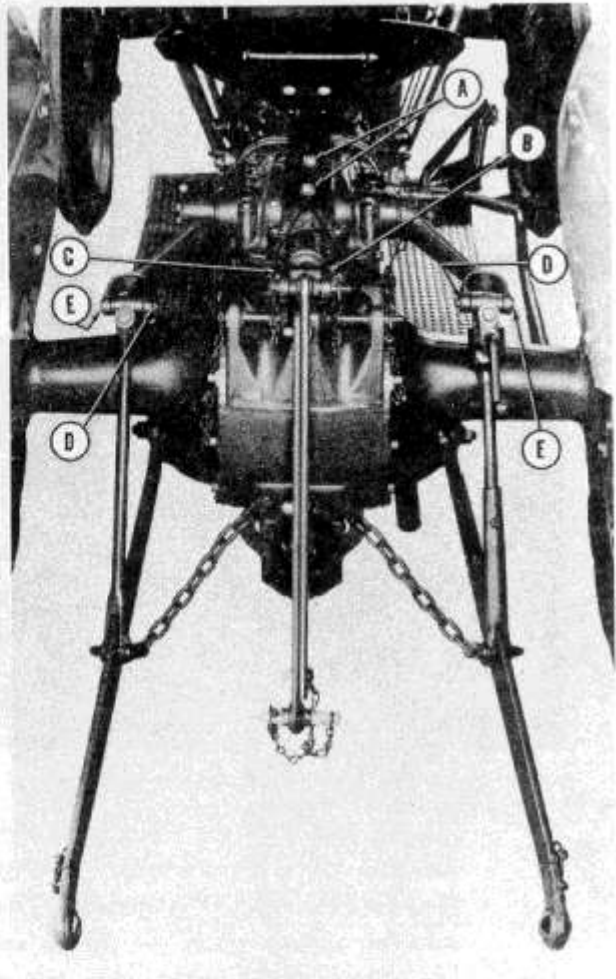

Fig. 1
NOTE: For training purposes it is advisable to remove the tractor seat. (Remove two hex head nuts (A-Figure 1).)
Step 1—Remove the cotter pin (B-Figure 1) from the rocker pin.
Step 2—Pull the rocker pin (C-Figure 1) and free the rocker from the main control spring yoke.
Step 1—Remove the cotter pins (D—Figure 1) from both leveling arm knuckle pins.
Step 2—Remove the knuckle pins (E—Figure 1) disengaging the leveling arms from the lift arms.